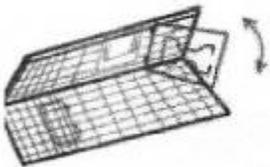
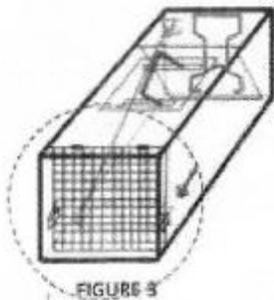

FIGURE 2
FIGURE 3
2. Holding the handle on top of the trap, slowly pull the trap up allowing it to fall into place (Fig. 2). The rear door should be pushed down and back at the rear of the trap (Fig. 3).